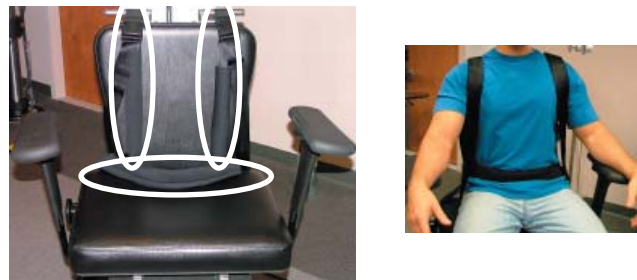

Figure 6-50. Waist and Shoulder Straps
Step 6. Secure the patient with the waist strap and shoulder straps (Figure 6-50).